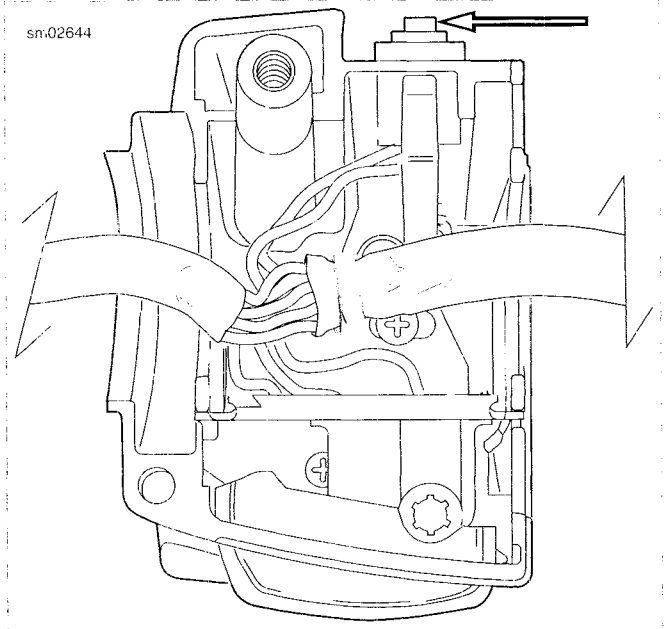

Figure 7-104. Clutch Interlock Switch
2. See Figure 7-104. Cut wires 0.25 in. (6.4 mm) from old switch. Discard switch assembly.